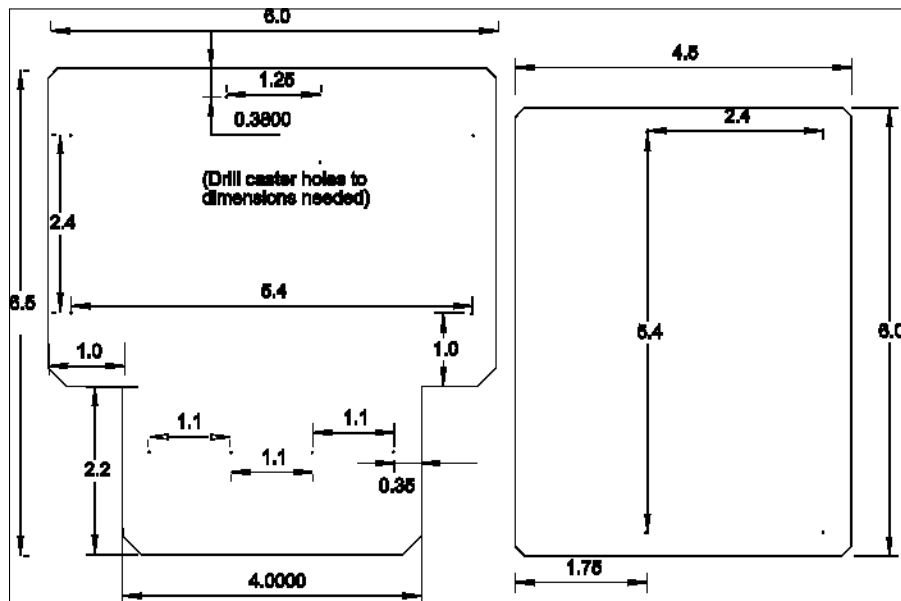

Figure 15-1:
Figure 15-1 shows the cutting and drilling template for Rover, a two-deck tabletop robot. The dimensions used in this template are measured in inches.
The first step in the building process is to use the robot layout from Figure 15-1 to drill holes for mounting parts, and then cut out the deck pieces.
- 1. Lay out the holes and cutting dimensions from the template in Figure 15-1 directly on the wood or plastic material. Or better yet, draw them first on a piece of paper, then tape the paper over the wood or plastic material you are using for the decks.**
You attach the caster by using 6-32 by $\frac{1}{2}$ -inch machine screws and nuts, as you can see in Figure 15-7. The drilling holes in the layout (see Figure 15-1) differ in size and spacing depending on the model of caster that you use. Your best bet is to trace the holes that you need to drill by using the caster base plate as a guide.